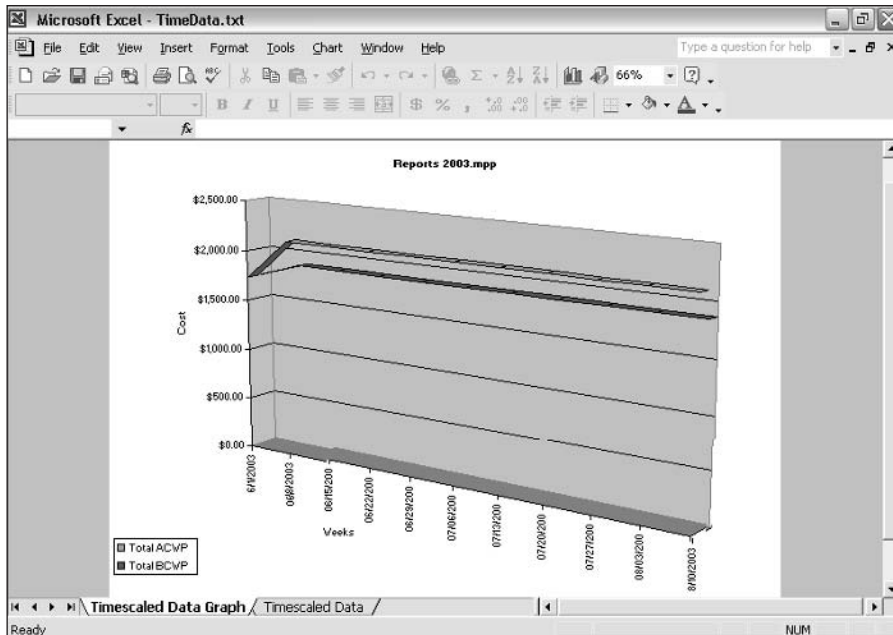

Figure 14-15: Select the cells containing the data that you want to chart.
4. Highlight (by dragging) the cells in the row containing the information that you want to chart. Note that I've excluded the ID in Column A in Figure 14-15.